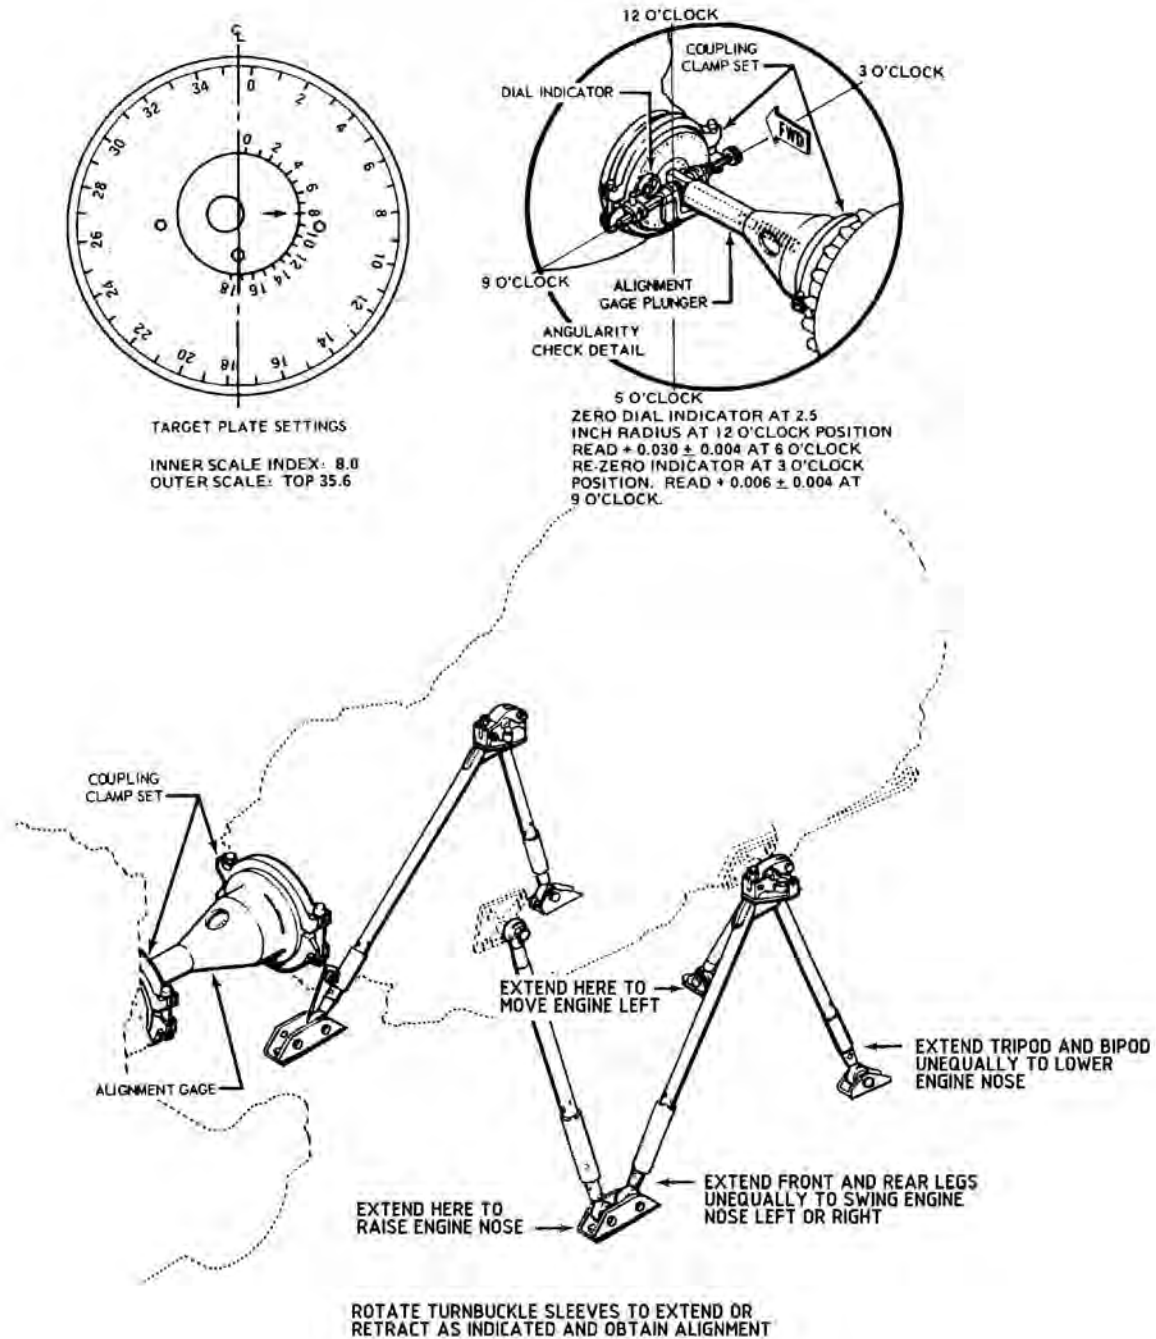

Figure 71-8. Use of Alignment Tool Set T101419
71.1.1.3.4 Install the target plate of T101419 engine-to-transmission driveshaft alignment tool set on the transmission input quill coupling. (Refer to Figure 71-8)
71.1.1.3.8.1 Mount a dial indicator on the forward end of the alignment gage plunger as shown in Figure 71-8.
rotating each turnbuckle sleeve on the tube assembly, bipod assembly and tripod assembly per Figure 71-8.